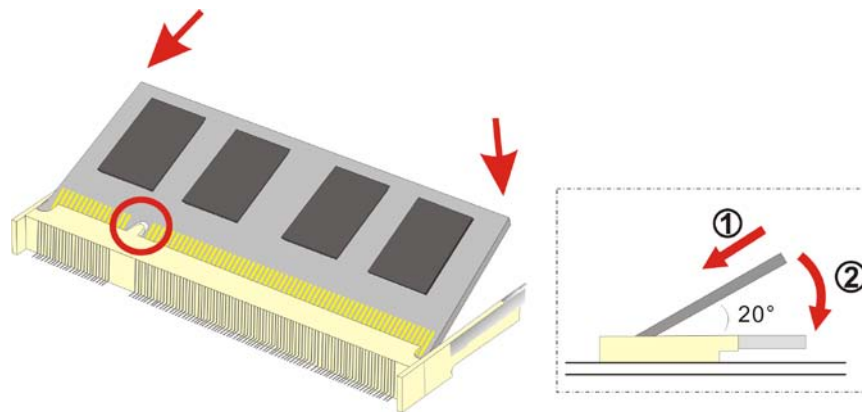

Figure 5-7: DDR3 SO-DIMM Module Installation
Step 6: Install the new DDR3 memory module by pushing it into the socket at an angle (**Figure 5-7**).
Step 7: Gently pull the spring retainer clips of the SO-DIMM socket out and push the rear of the DDR3 memory module down (**Figure 5-7**).